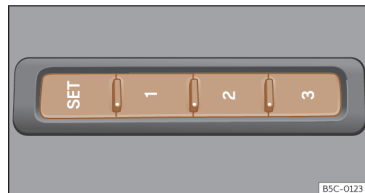

Fig. 74 On the outer side of the driver seat: memory buttons.
- Press **SET** for longer than 1 second >>> **Fig. 74**.